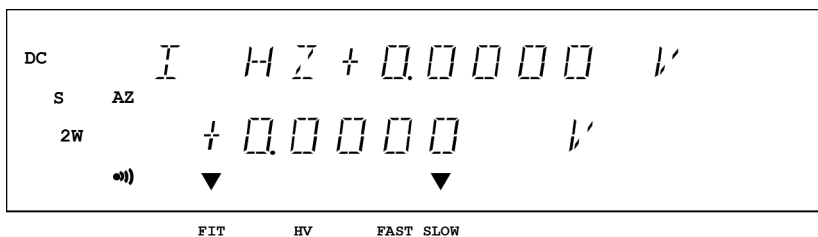

Figure 1-7 Start-Up Display
When the test is complete, the model name, line frequency, setting interface information (GPIB address or USB ID) and software revision appear (See Figure 1-6). After that, the start-up screen is displayed (Figure 1-7).
1. Depending on the previous conditions, the screen display may be different from Figure 1-7.